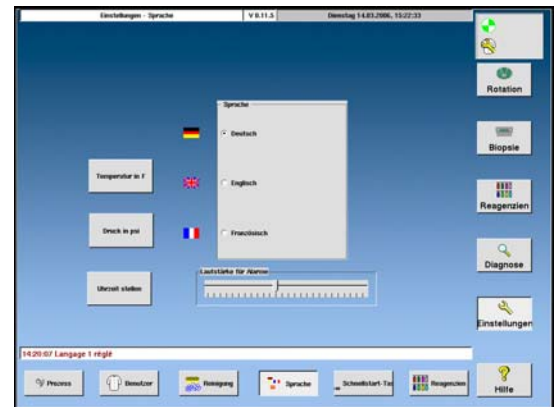

Fig. 23
- To adjust the inner system time to the local time, please select the submenu "Language" in the setting menu. The opposite screen is shown (fig. 23).